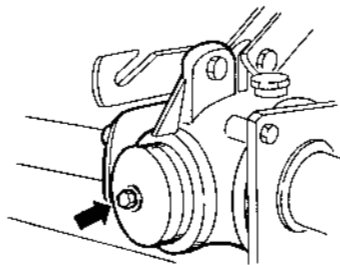

Fig. 19
- 5 Input Gearbox - With tiller level, remove oil level check plug on rear of gearbox housing. Correct oil level is at bottom of check plug. Add oil if necessary. Gearbox capacity 2 pts. (Fig.19).